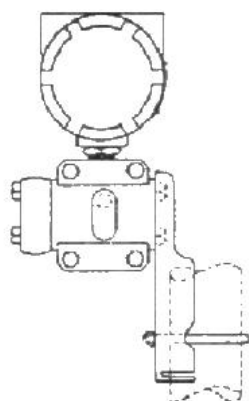

Figure 2-1 The installation of pipe mounting of platmounting flat bracket
**The installation of pipe mounting flat bracket:** the typical installation as Figure 2-1 shows. Fix transmitter in flat bracket using four bolts provided, and then fix the flat bracket on the vertical pipe of  $\Phi 50\text{mm}$  around with the U-shape bolt provided.